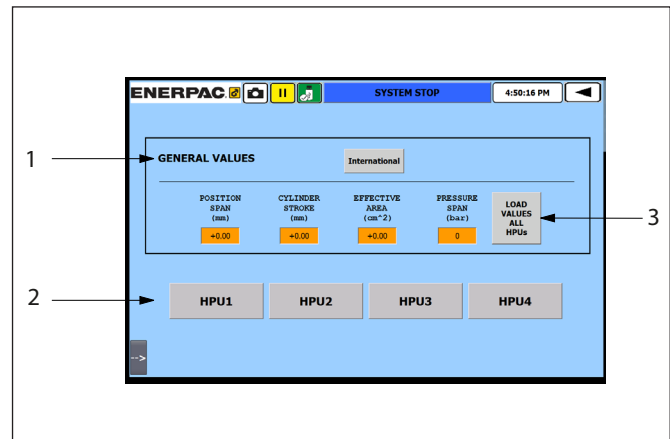

Figure 49: EVO Spans Screen
2. Hydraulic power unit: The user can select the HPU to apply the parameters (see Figure 49).
The user can access to the Spans Parameters screen pressing on the HPU icon. In the boxes the user can type the following data (refer to Figure 49):